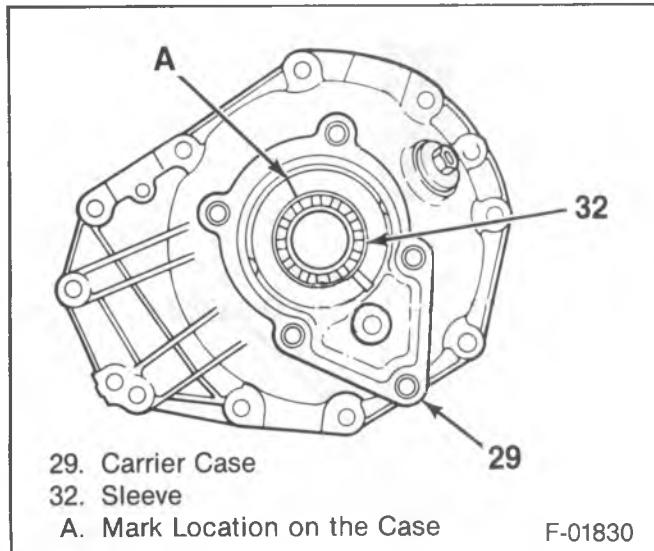

Figure 26—Marking Sleeve Location
- Mark the location of the adjusting sleeves in relation to the carrier halves (figure 26), so the notches in the adjusting sleeves can be counted when turned.